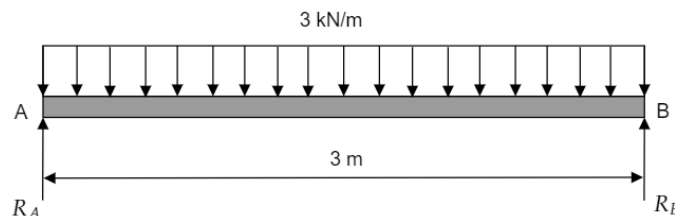

Figure 5b: Simply supported beam with UDL.
b) A steel I-beam is used to support an industrial motor in a machining plant. The beam is simply supported, and the weight acting on the beam can be modelled as a uniformly distributed load (UDL), as shown in **Figure 5b**. For this beam configuration: